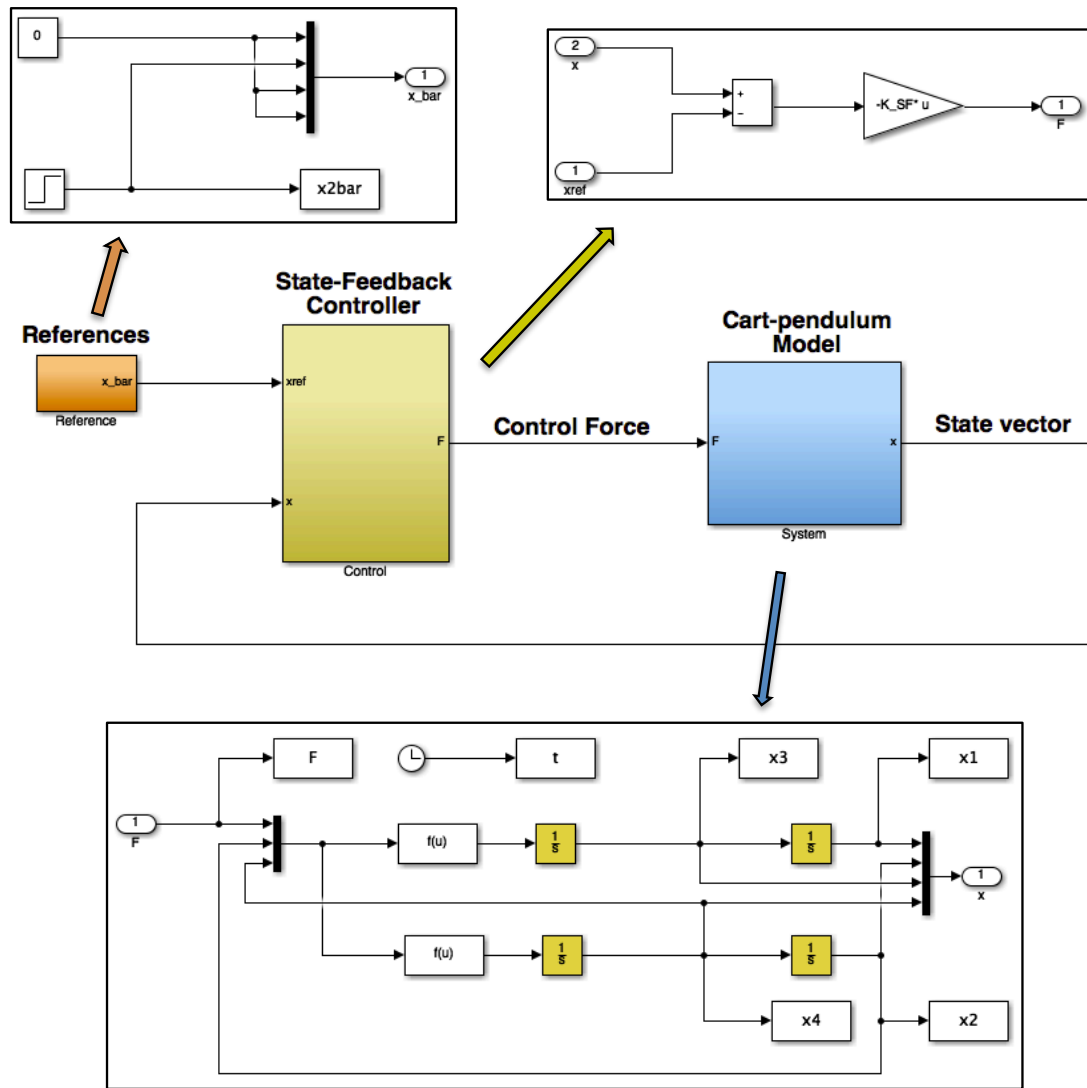

Figure 3: Nonlinear control system.
- ii) Create a Simulink model of the nonlinear system in closed loop with the state-feedback controller and select the control gain $K_{SF}=K_a$. Save your model as `CP_SFC_NLin_yourstudentnumber.slx`. An example of the Simulink model is shown in Figure 3.